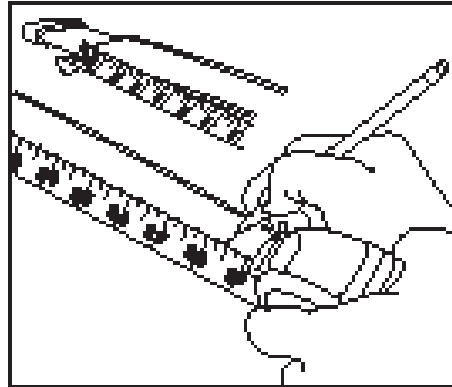

Fig.12
1. Take the Awnbrella arms down from the coach. On the top side of one Awnbrella arm (side without adjustment knobs), wipe rubbing alcohol to remove any grease or oils from handling on the center of the arm where the Velcro patch will be installed. Measure 28-1/2" from either end of the channel and mark with a pencil (**Fig.12**). This is where to install a black patch of Velcro.